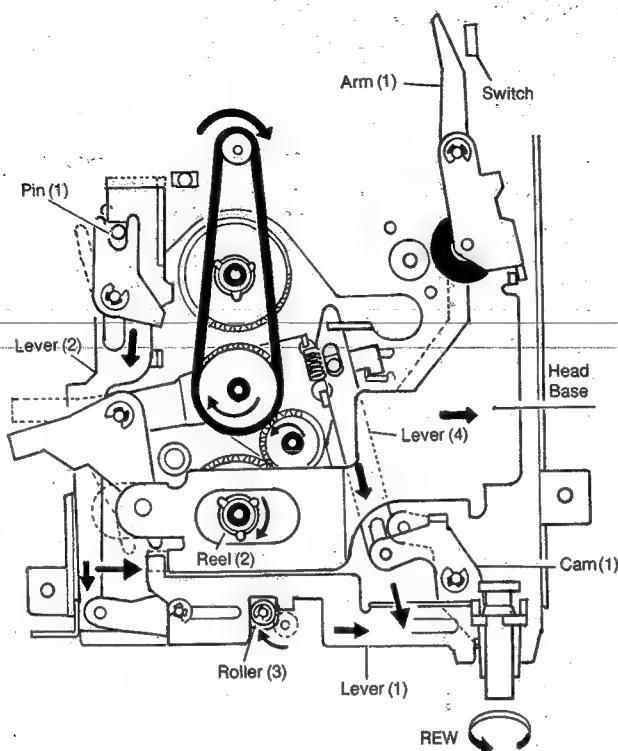

Fig. 17
• Rewind Mechanism (see Fig. 17)
1. Turning of the F.F./Rewind knob to the REW side causes Lever (1) to move rightward and be locked by Roller (3).
2. As in the function of the F.F. mechanism, Pin (1) moves inward.
3. With Lever (1) moving rightward, the Head Base is